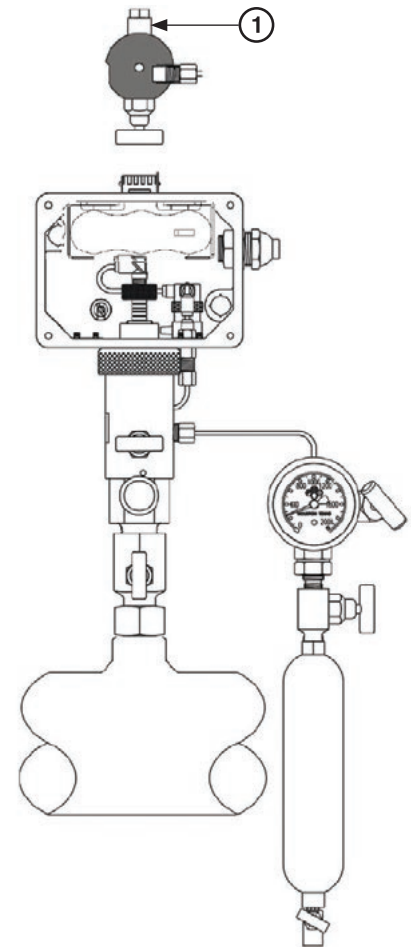

Figure 26: Inspection/Repair of the Outlet Spring Check
1.3 Inspection/Repair of the Outlet Spring Check (refer to Figure 26)
Removal Procedure (refer to Figures 26 & 27)